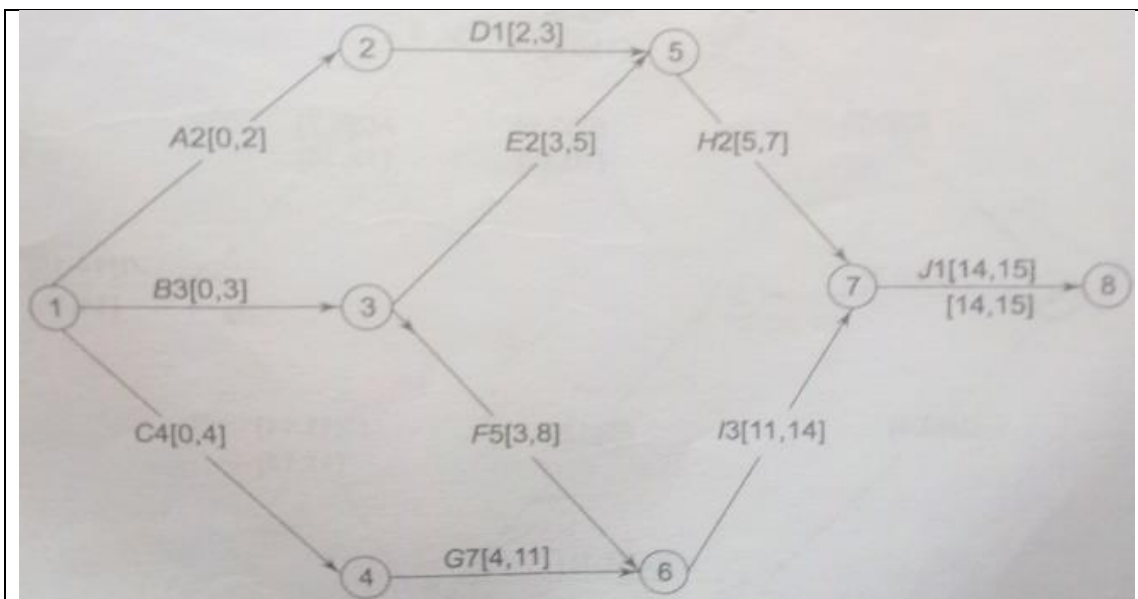

Figure 12
Step 1 : In our example, the project has to be over on 15th unit of time. Therefore, for the last activity J of the project, we keep latest finish time as 15. Activity J requires 1 week and hence its latest start time will be $15 - 1 = 14^{\text{th}}$ week (refer figure 12).